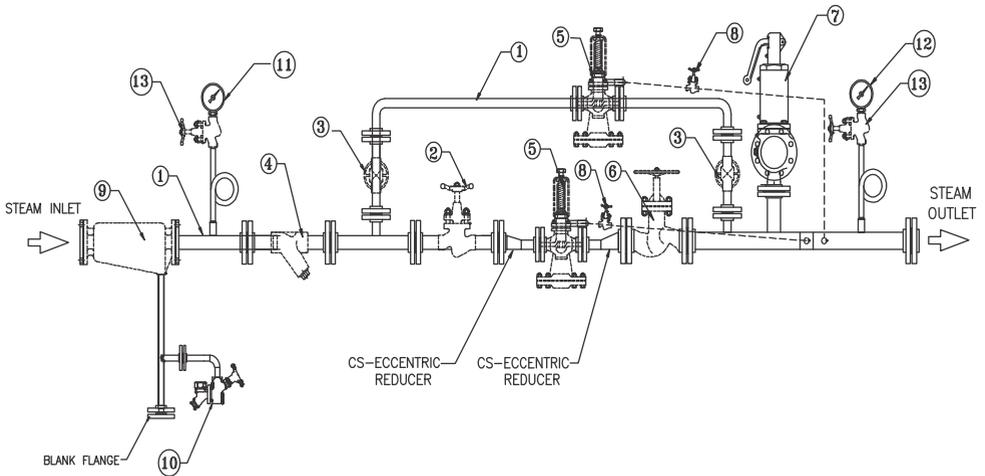
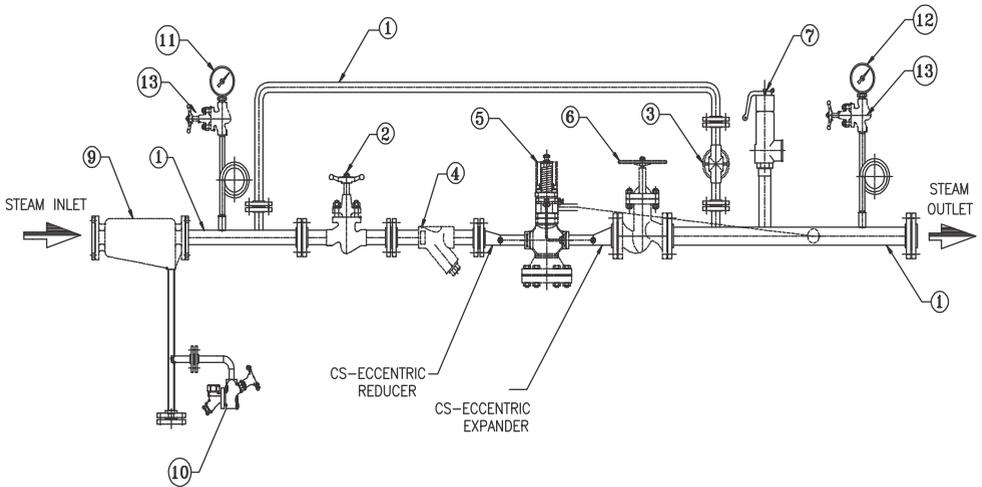
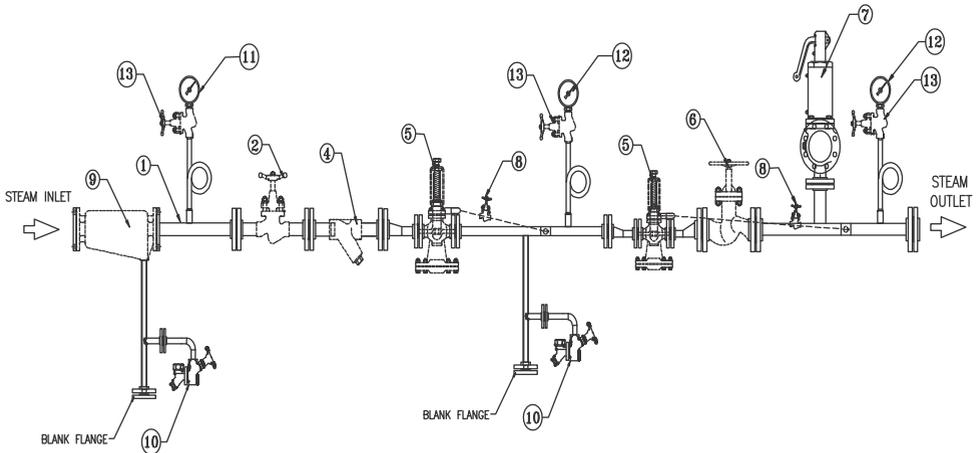

Figure 6: Recommended installation of FMPRV41
Fig. 7: Installation of Two FMPRV41 in parallel
Figure 8: Installation of Two FMPRV41 in series
The valve should always be fitted in a horizontal pipeline with the main diaphragm chamber below the line (figure 7). To meet the high capacities or widely varying loads or where stand-by facility is required, two or more valves may be used in parallel (figure 6). For pressure turn down in excess of 10 to 1 consideration should be given to using the two valves in series. To avoid turbulence between the two pressure reducing valves, the distance must be equivalent to at least 50 pipe diameters. To ensure adequate drainage of the space between the two pressure reducing valves a trap set should be fitted as shown in figure 8.
For continuous duty applications where a constant steam supply is essential then a parallel stand-by pressure reducing valve station is recommended to allow for planned maintenance see fig 6. Alternatively a by-pass line can be used (see fig 7). It is important that the by-pass should have a similar capacity to the Forbes Marshall Pilot Operated Pressure Reducing Valve which is achieved by choosing an appropriately sized valve or by using a reduced orifice in the line.
6. Startup and Commissioning : (Refer figure 7)